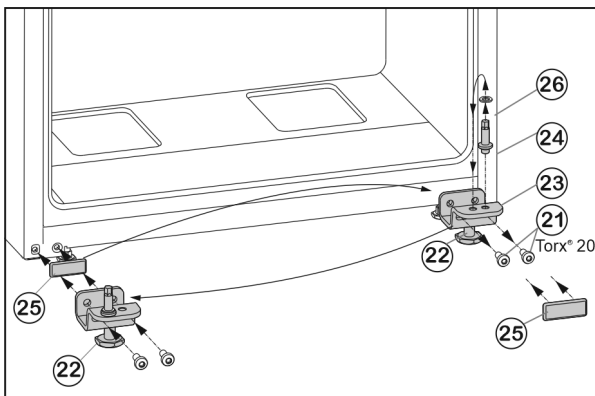

Fig. 7
- Unscrew fastening screws *Fig. 7 (21)*.
- Remove the lower bearing block *Fig. 7 (23)*, complete with bearing bolt *Fig. 7 (24)*, washer *Fig. 7 (26)* and adjustable foot *Fig. 7 (22)*.
- Unscrew the bearing bolt *Fig. 7 (24)*, complete with washer *Fig. 7 (26)*, re-locate it into the mounting hole on the opposite side of the bearing block and tighten again.
- Carefully remove the cover plate *Fig. 7 (25)* and re-locate it to the other side.
- Fasten the lower bearing block *Fig. 7 (23)*, complete with bearing bolt *Fig. 7 (24)*, washer *Fig. 7 (26)* and adjustable foot *Fig. 7 (22)* to the new hinge side, with the help of a cordless screwdriver if necessary, and **tighten (with 4 Nm)** once again.
- Lower the bottom door onto the bearing bolt *Fig. 7 (24)*.
- Unscrew the adjustable foot *Fig. 7 (22)* on the lower bearing block *Fig. 7 (23)* until it reaches the floor.